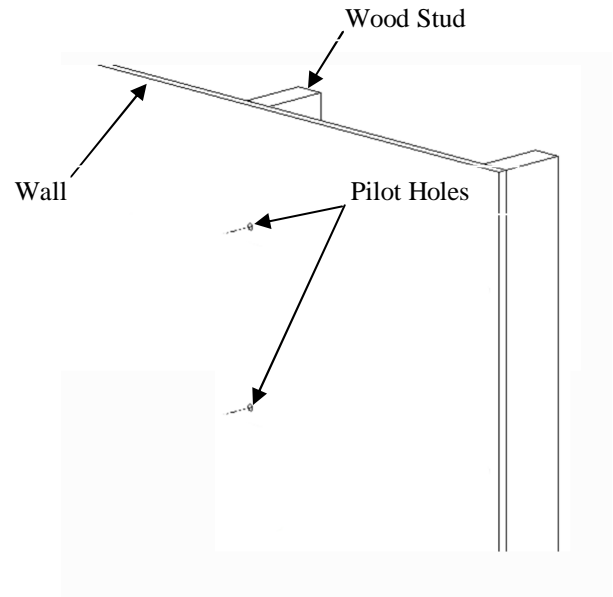

Figure 2. Drill Single Stud Pilot Holes
- Refer to Figure 2 for single wood stud mounting.